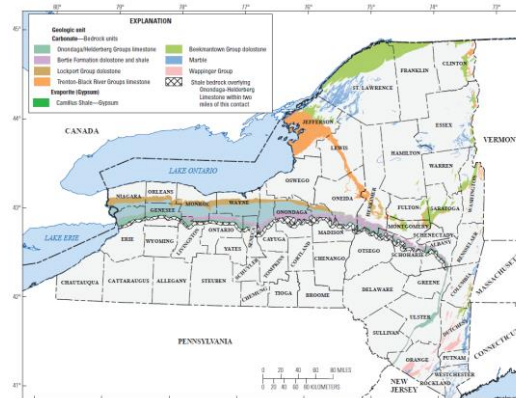

Figure 1. 1:250,000 scale carbonate bedrock unit map of New York State (Source: Kappel et al., 2020; reprinted with permission).
elevated risk for surface management induced groundwater contamination. "Carbonate" includes limestone, dolomite, calcareous shale, and other carbonate-containing sedimentary bedrock that can develop enhanced fracture pathways due to dissolution from groundwater. Bands of carbonate bedrock can be found (1) roughly parallel to the New York Thruway from Albany to Buffalo, (2) along the western side of the Hudson River south of Albany, and (3) in some portions of northern New York (Figure 1).